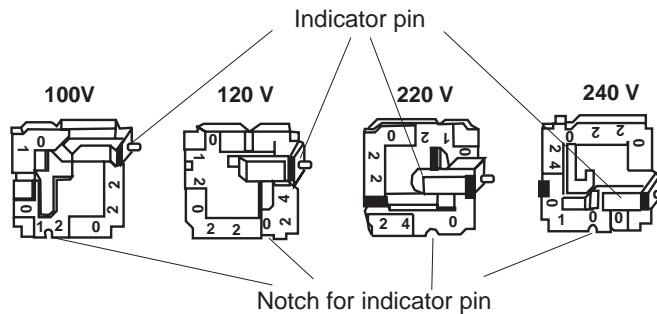

Figure 2-3 Voltage Selector Card
4. The edge of the voltage card is labeled with four voltages (Figure 2-3). Position the voltage indicator pin on the opposite side of the card from the required voltage. Seat the indicator in the notch on the edge of the card.